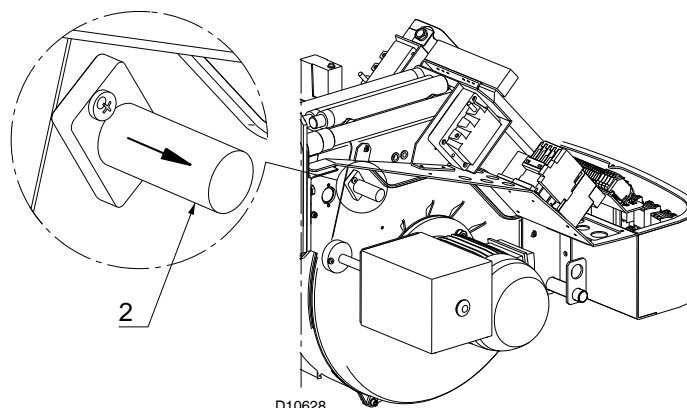

Fig. 54
- extract the UV scanner 2)(Fig. 54);